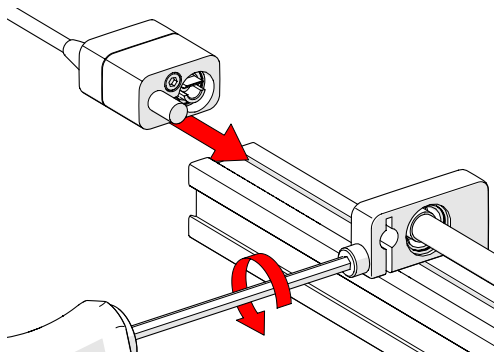

Fig. 60 - Loosen and slide post in place
1. To install the index encoder, loosen the clamp screw of the index encoder support bracket with the supplied 3 mm hex driver (Fig. 60).